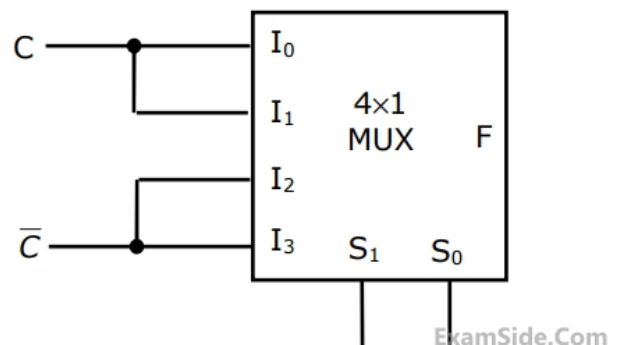

Fig. 4.10
16. Find the logic realized by the circuit in Fig. 4.10. (GATE EC 1992)